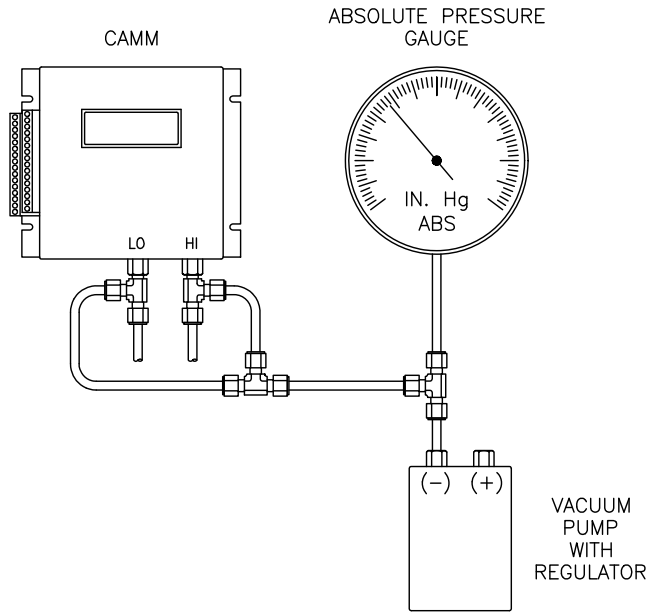

Figure 6.2
1. Prepare test equipment as shown in Figure 6.2. Have vacuum pump preset to approximately the required minimum pressure (see Factory Set-Up Information Sheet).